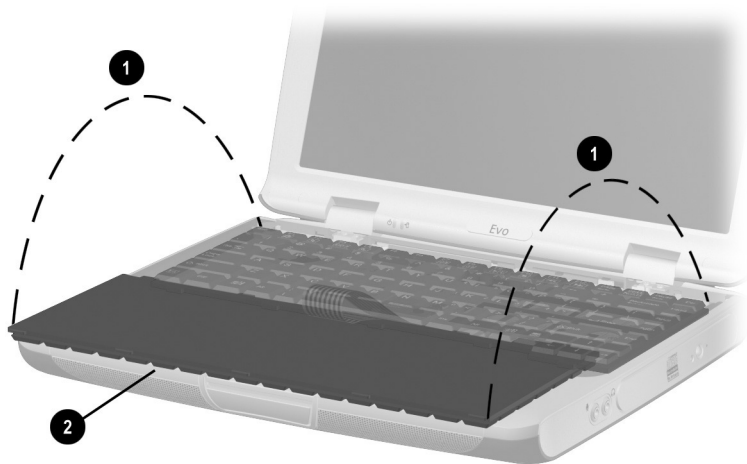

Figure 5-17. Releasing the Keyboard
3. Swing the back edge of the keyboard up and forward ❶ and rest it upside down on the palm rest ❷ (Figure 5-17).